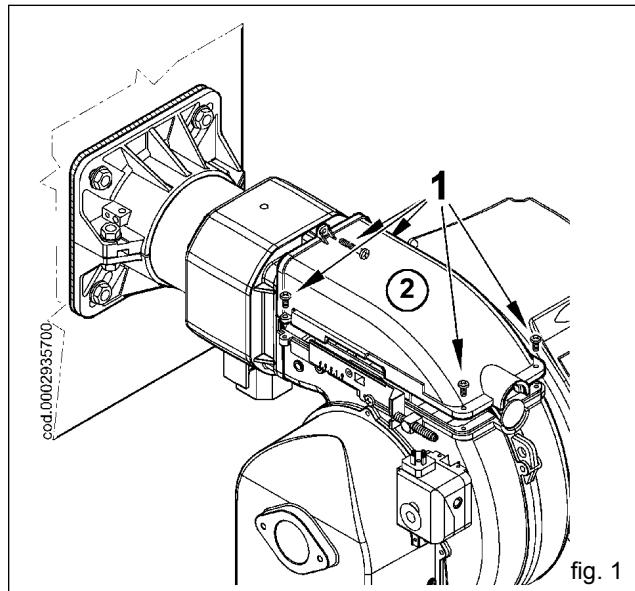

fig. 1
- 1) Slacken the screws 1 and remove the lid 2 (figure 1).